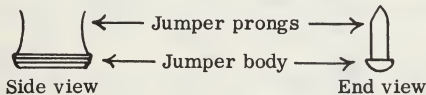
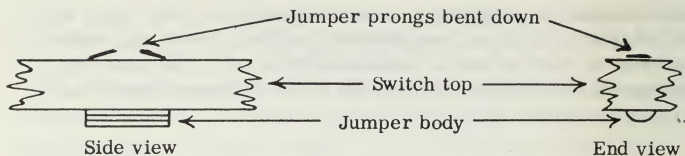

Figure 22 — Jumper, not mounted
Figure 23 — Jumper, inserted in two adjacent holes along a spoke
11. Jumpers. Each pair of holes in a switch top, from Ring 1 to Ring 2 or from Ring 3 to Ring 4 (or very rarely from Ring 2 to Ring 3) may or may not contain a jumper, a small piece of brass plated metal with two prongs, as shown in Figure 22. The two prongs fit into holes in the switch disc and are pressed down, like a clasp or T fastener, as shown in Figure 23. A jumper serves to make and break electrical contact as the switch is turned.